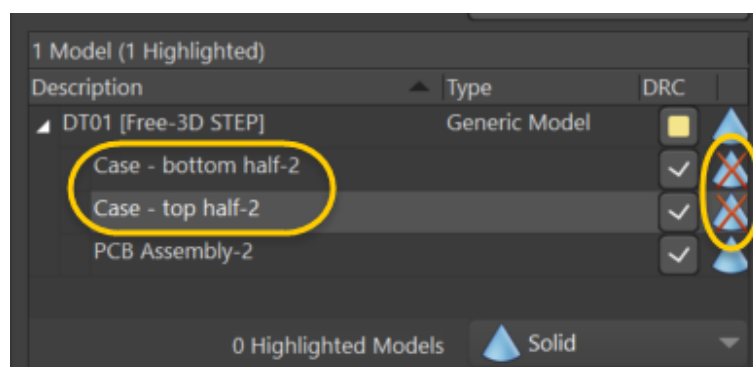

Figure 5. PCB panel with 3D Models
24. To create the board shape, you need to select one of the faces of the PCB Assembly-2 model. Start with hiding the Case - bottom half-2 and Case - top half-2 by clicking on the blue cones until a red x appears, as shown in Figure 5.